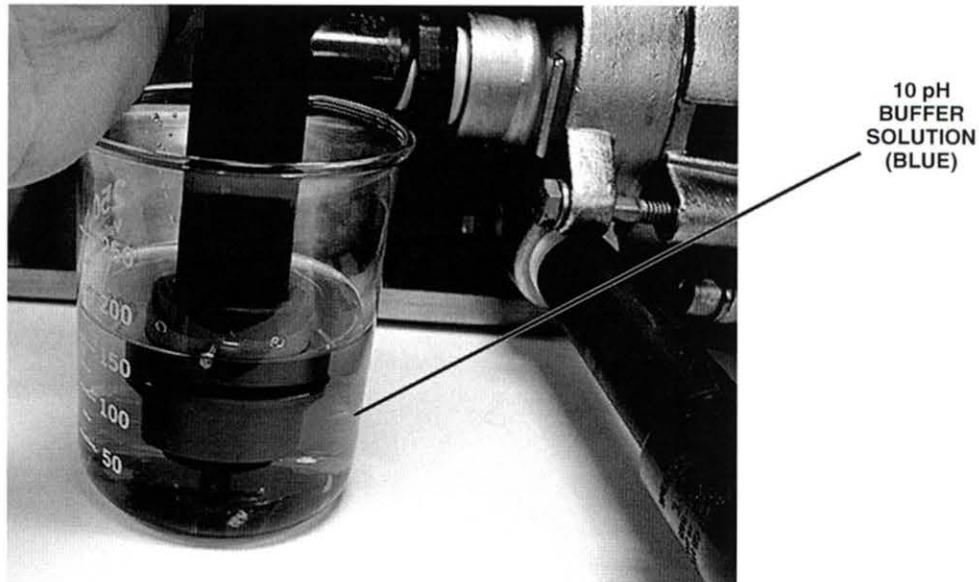

Figure 38. Sensing End of Electrode in 10 pH Buffer Solution
- B. Place the sensing end of the electrode into the buffer solution in the container, as shown in figure 38.